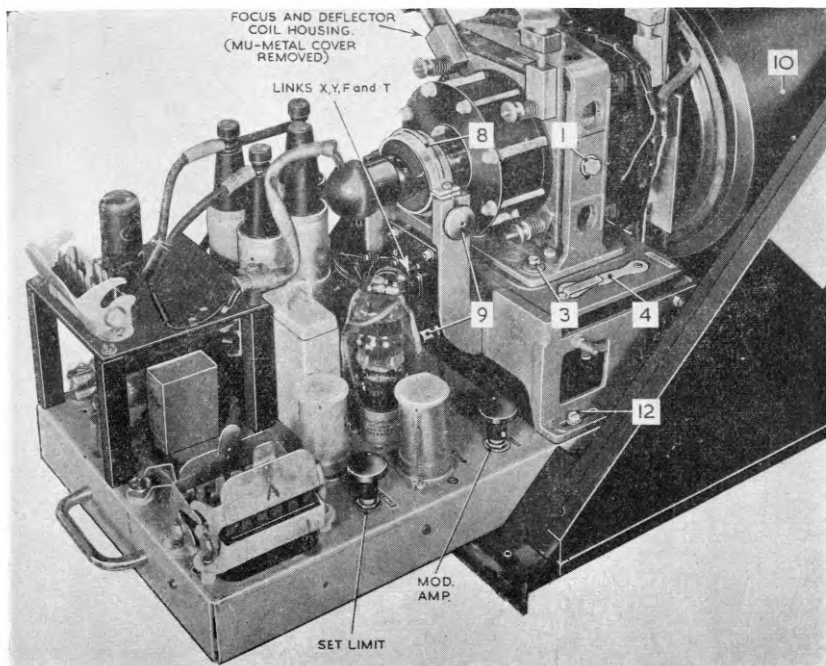

Fig. 31. Indicating unit Type 115: interior
**106.** Remove the shift coil links; these are labelled x and y (*fig. 31*) and are plugged